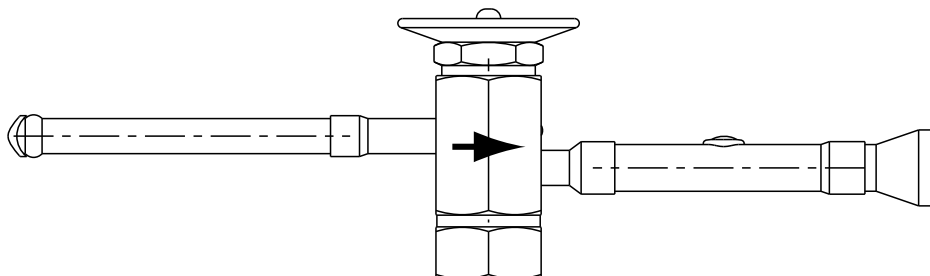

Figure 1. TXV Body and Direction of Flow
6. Wrap valve body with a wet rag prior to installing the replacement TXV. See figure 2. The valve should only be installed in the direction of flow as indicated on the valve body. See figure 1.